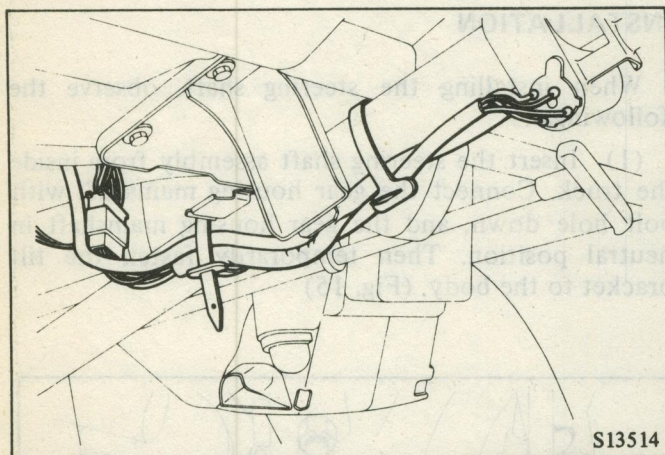

Fig. 16 Column Switch Harness Arrangement
- (4) Install the column switch to the column. Route the harness along the column tube and clip it securely. (Fig. 16)